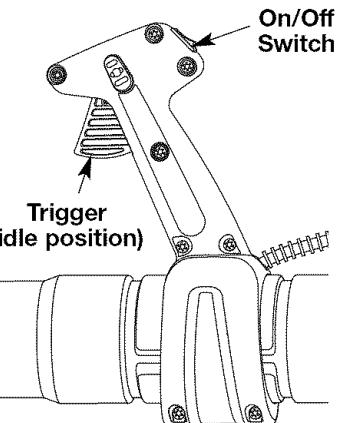
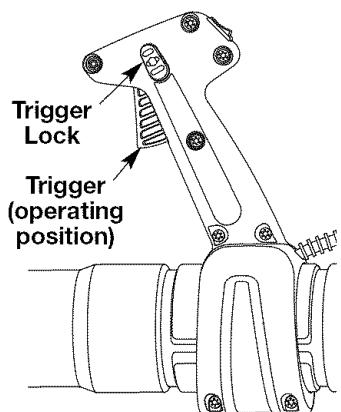

Fig. 11A
Fig. 11B
NOTE: There is no need to turn the unit on. The On/Off Switch is in the ON (I) position at all times (Fig. 11A).
4. Squeeze and hold the trigger (Fig. 11A).
5. Press and hold the trigger lock (Fig. 11B).
NOTE: The trigger lock should hold the trigger in the pressed position (Fig. 11B). If not, repeat steps 4–7.
NOTE: Unit is properly warmed up when engine accelerates without hesitation. To accelerate, squeeze and release the trigger to deactivate the trigger lock (Fig. 11B), then squeeze the trigger for desired acceleration.
NOTE: The trigger lock locks the trigger in the operating position (Fig. 11B) to facilitate starting the unit and to make continuous operation easier. To lock the trigger, follow steps 4–7 above. To release the trigger lock, squeeze the trigger firmly, then release. The lock should disengage and allow the trigger to return to the idle position (Fig. 11A).
2. Press the On/Off Stop Control switch in the OFF (O) position and hold until the engine comes to a complete stop (Fig. 11A).